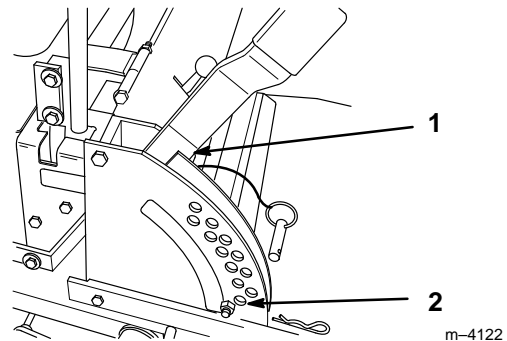
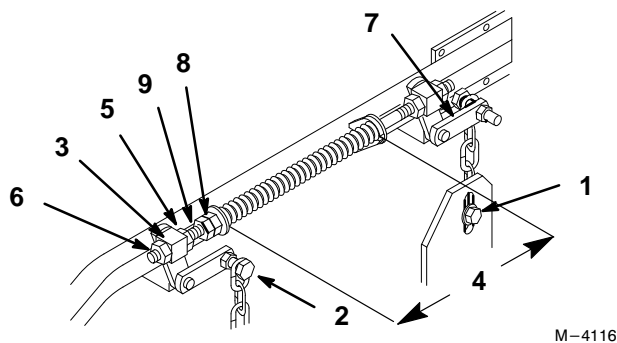

Figure 41
Figure 42
2. Check tire pressure of all four (4) tires. If needed, adjust to 13 psi (90 kPa)
4. Raise the deck to the transport position (Fig. 41). Take force off of the two large deck lift springs by loosening jam nut and front spring nut, in front of each spring, as far as possible (Fig. 42).
5. Place two 1-1/4" (35 mm) thick blocks under rear left and right lower edge of mower. Place one 1-3/8" (44 mm) block under front center lower edge of mower. Not under anti-scalp roller brackets. Lower mower to the 1-1/2" (38 mm) height-of-cut position (Fig. 41).
6. Loosen bottom chain bolt in slot at rear of deck. Repeat for opposite side. (Fig. 42).
7. Loosen front and rear locking nut on either side of front swivel. Loosen until front chains are loose and deck is supported by blocks. Repeat for opposite side. (Fig. 42).
8. When hardware is loosened, remaining tension in the large support springs will tend to rotate the deck lift handle up, out of the 1-1/2" position. Press down on the rear deck support arm to firmly return the deck lift handle to the 1-1/2" position (Fig. 42).
9. While continuing to press down on rear deck support arm, take the slack out of the rear chain and tighten hardware at the bottom (Fig. 42). Downward pressure may now be released. Repeat for opposite side.
14. Raise deck lift lever to the transport position, (Fig. 41).
15. Adjust compression springs by turning the front spring nuts so the distance between the two large washers is 10-1/4" (260 mm). Then tighten jam nut (Fig. 42).